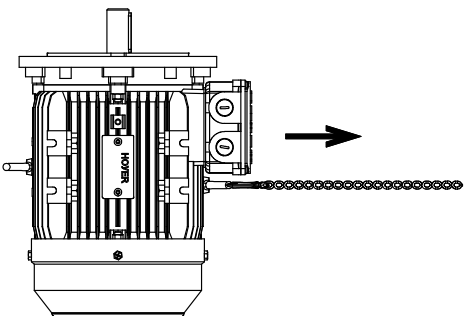

Figure 1
1. Lift motor by using the top lifting eyebolt through one hoist, see Figure 1.